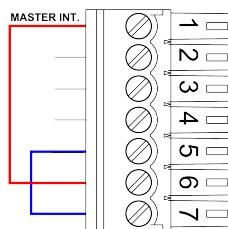

Figure 2.22: Permanently *Interlock*(not recommended)
- Input activated permanently(Fig. 2.22). This connection can be used for initial testing *Digital IN* but is not recommended during normal device operation .